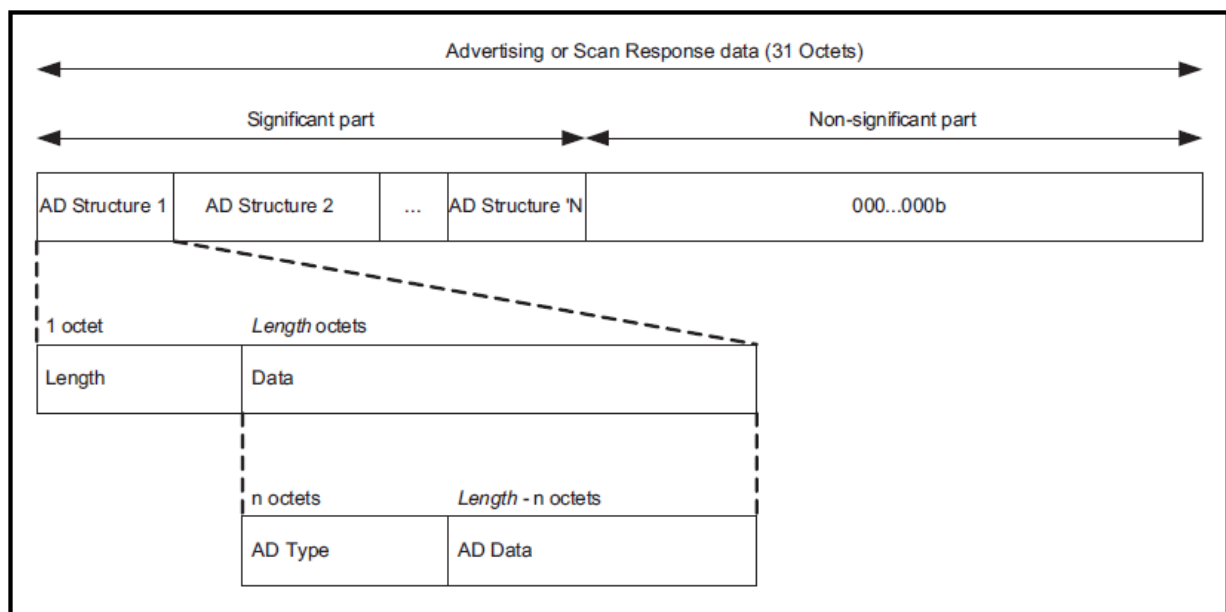

Figure 13 Advertising and Scan Response data format
1. Undirected advertising event: AdvA field is an address of the device sending advertising packets, and AdvData is in the format as is shown in Figure 13.